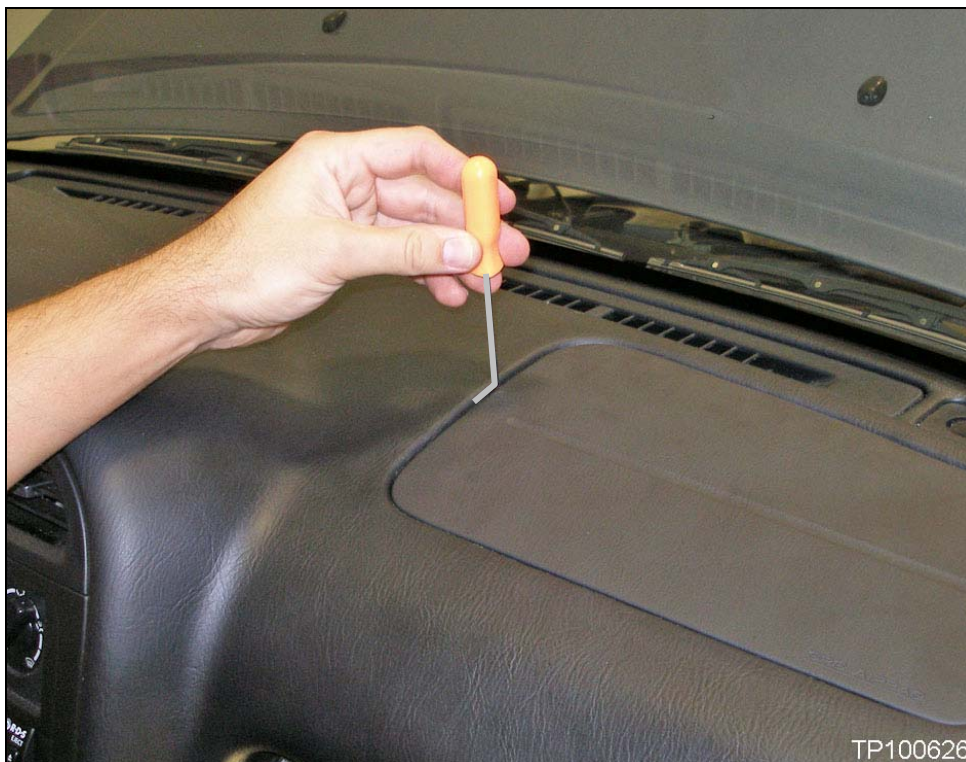

Figure 2
- a. Insert a hook type tool where shown in Figure 2.